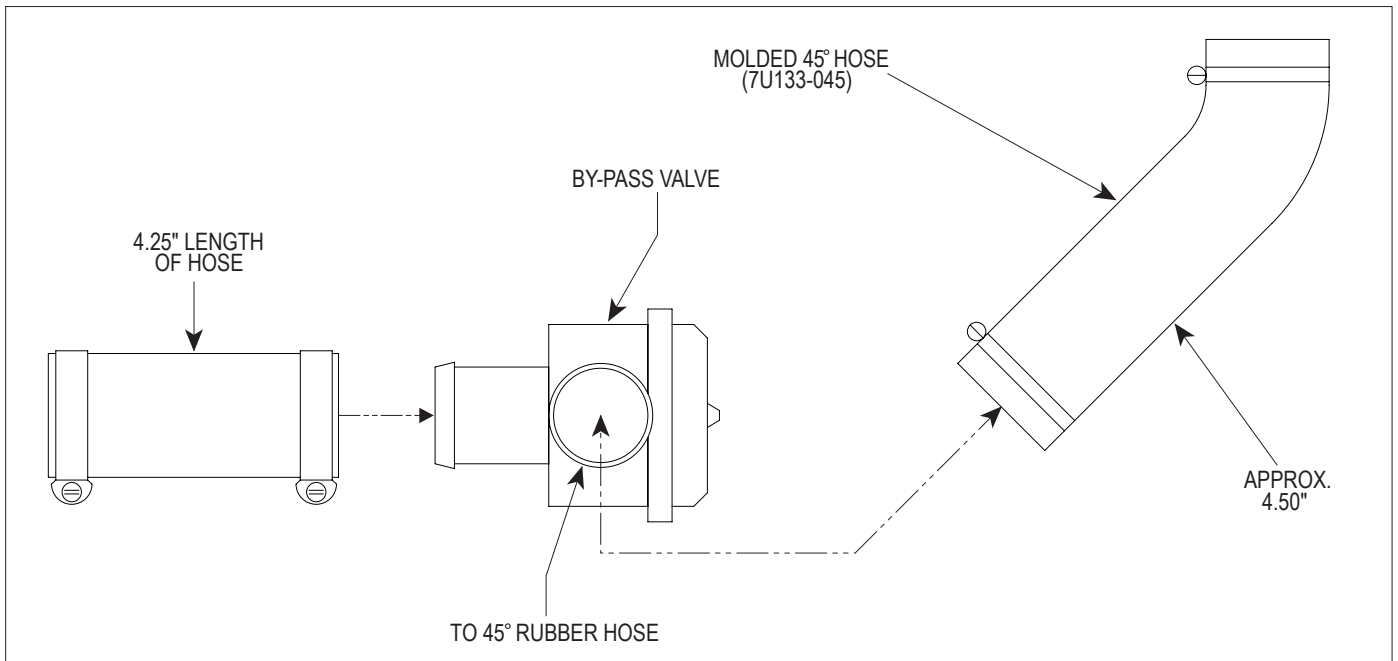

Fig. 8H-a
2. Locate the 1" molded rubber 45° elbow and cut approximately 6" from the long end and 1" from the short end. Attach the long end to the by-pass valve discharge and secure using the #16 hose clamps provided. (See Fig. 8H-a, 8I-a.)
3. Attach the open end of the 4.25" long hose to the by-pass port on tube "A" and secure using a #16 hose clamp. The open end of the 45° hose will be connected to the inlet duct in a later step. (See Fig. 8H-a, 8I-a.)